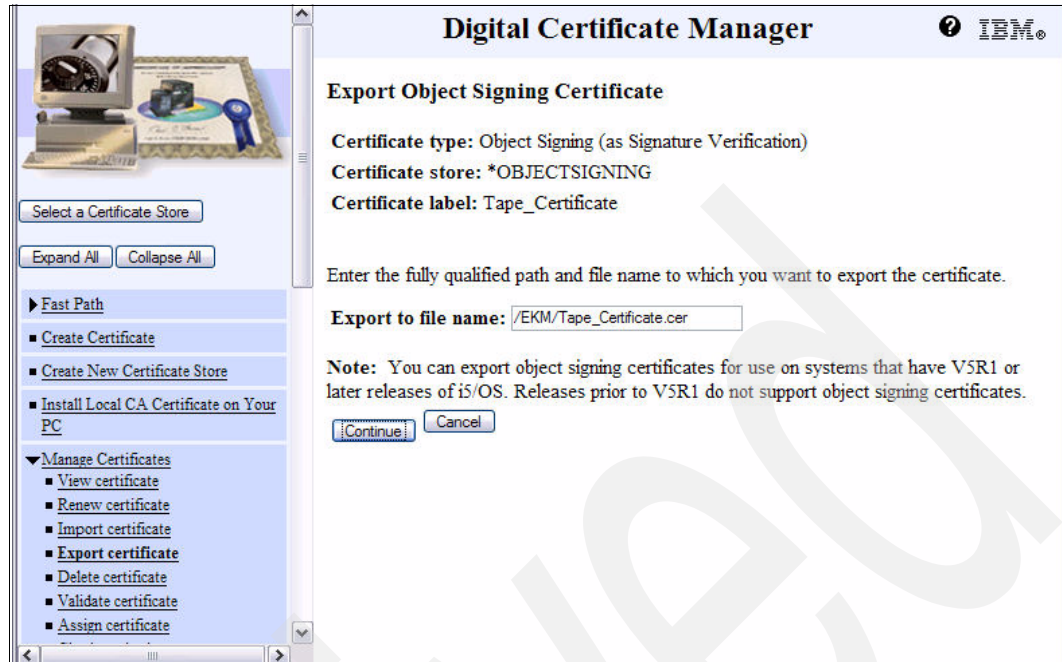

Figure 7-49 DCM Export Object Signing Certificate screen
17. After clicking **Continue**, specify the file name for exporting the certificate as shown in Figure 7-49.